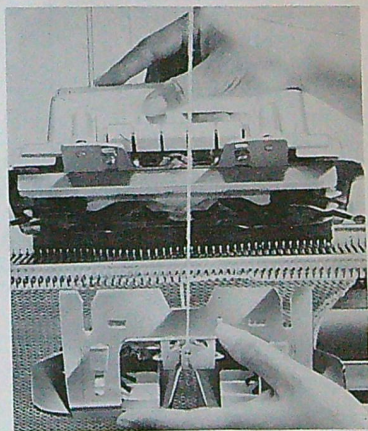

Fig. 16
- b. Grip the handle of the carriage and lift up the front of the carriage. (see Fig.16)